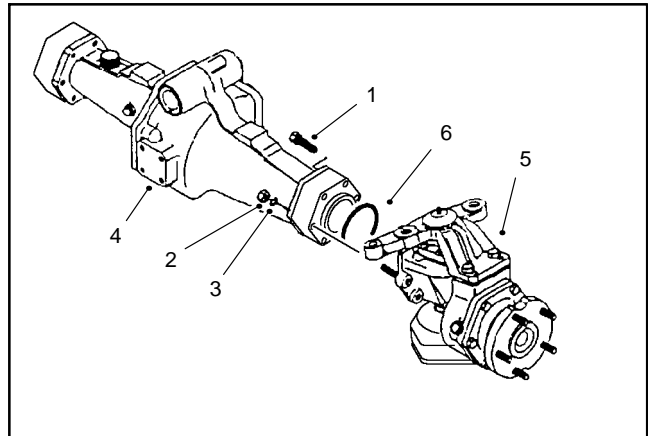

Figure 22
1. Remove the mounting screws, nuts, and lock washers. Remove the bevel gear case/axle case assembly and O-ring from the axle support (Fig. 22).